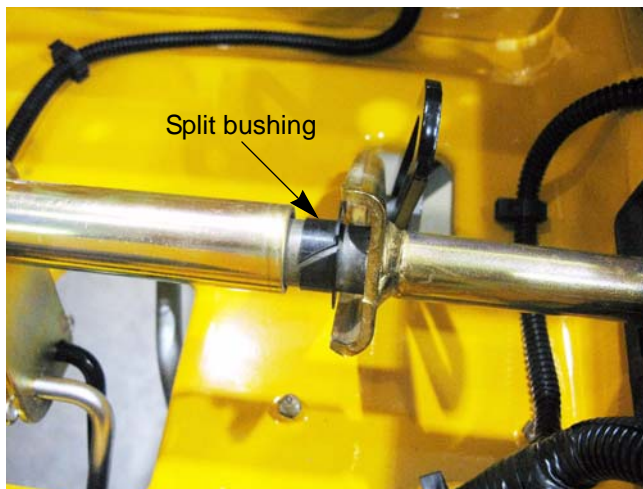

Figure 4.14
10. Slide the right split bushing out of the brake shaft until it is full exposed. See Figure 4.14.